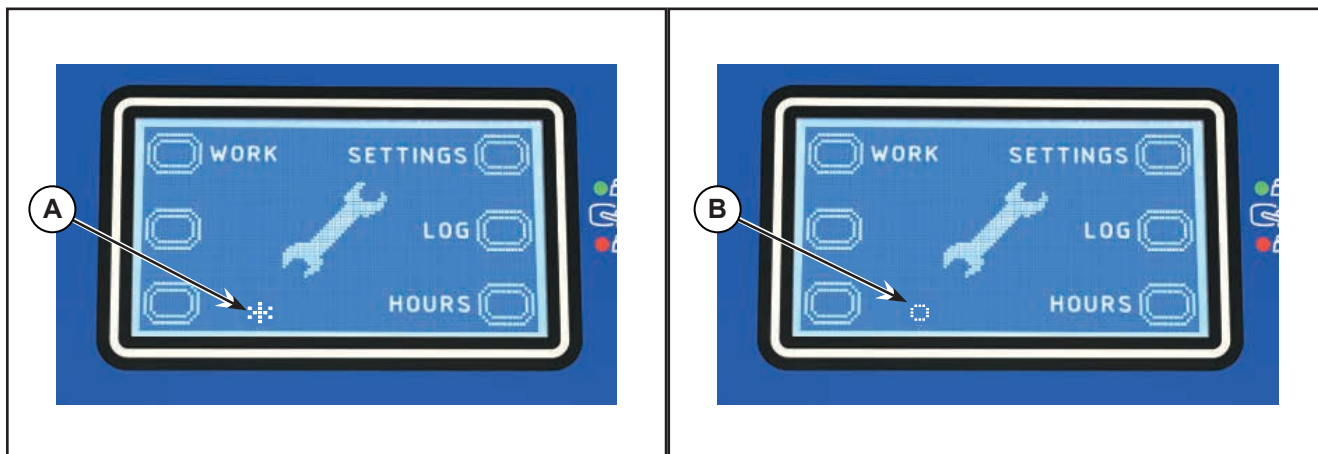

Figure 10:
1. Insert the super user key (yellow) to access the main screen (Figure 10) of the multifunction display.
2. With the solution tank more than half full, the symbol displayed is (A).
3. With the solution tank less than half full, the symbol displayed is (B).